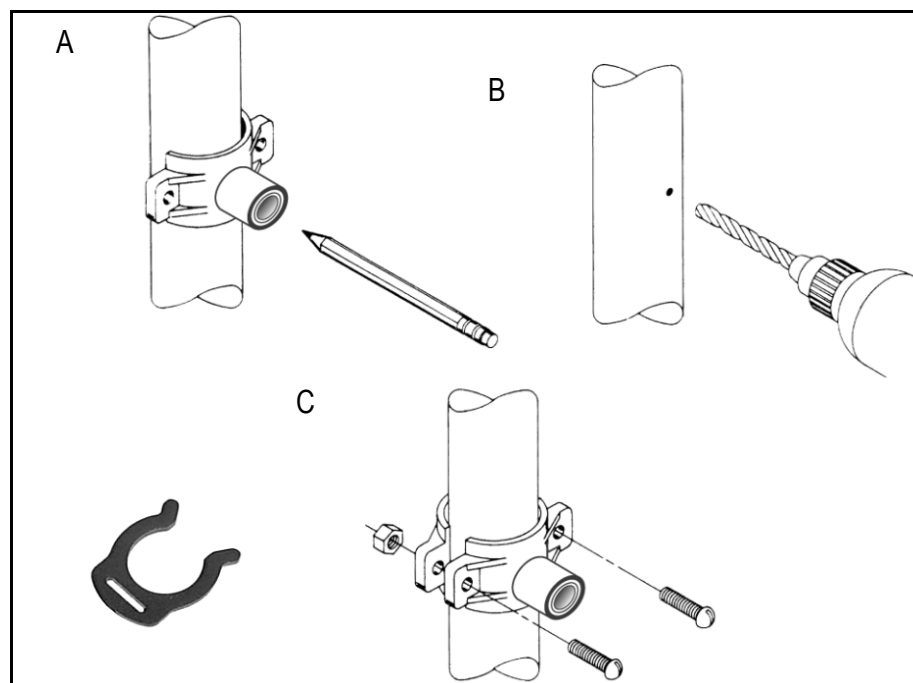

Figure 10: Drain Saddle Assembly
- A. Position the drain saddle in the desired location, mark the spot to be drilled, and remove the saddle. (See Figure 10)